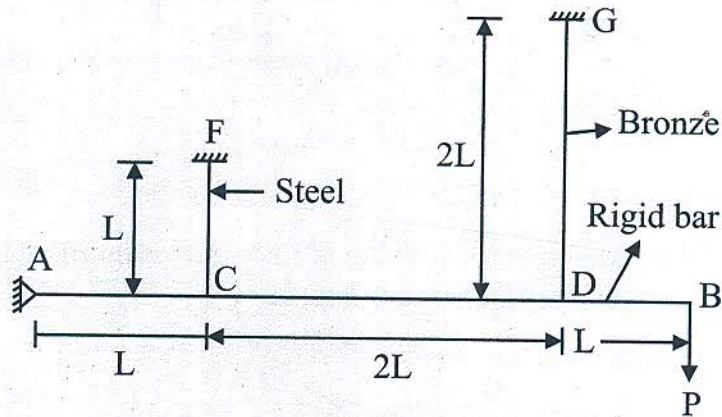

Fig. 1
5. (a) A rigid bar AB is hinged at A and supported by bronze rod GD of length  $2L$  and steel rod FC of length  $L$ . A load  $P$  is applied at the end B as shown in Fig. 1. Calculate the load carried by each rod and reaction at A. Take area of steel rod as 1.5 times the area of bronze rod, modulus of elasticity of steel as 2 times the modulus of elasticity of bronze.